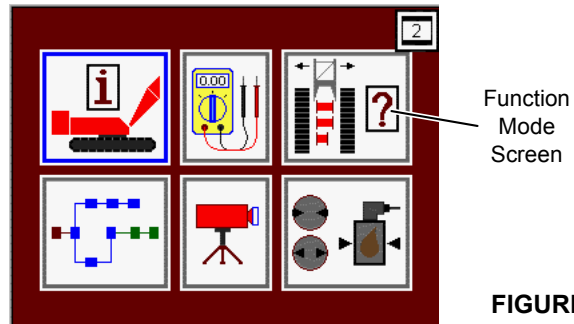

FIGURE 3-30
4. Enter the function mode screen in the main display (Figure 3-30).